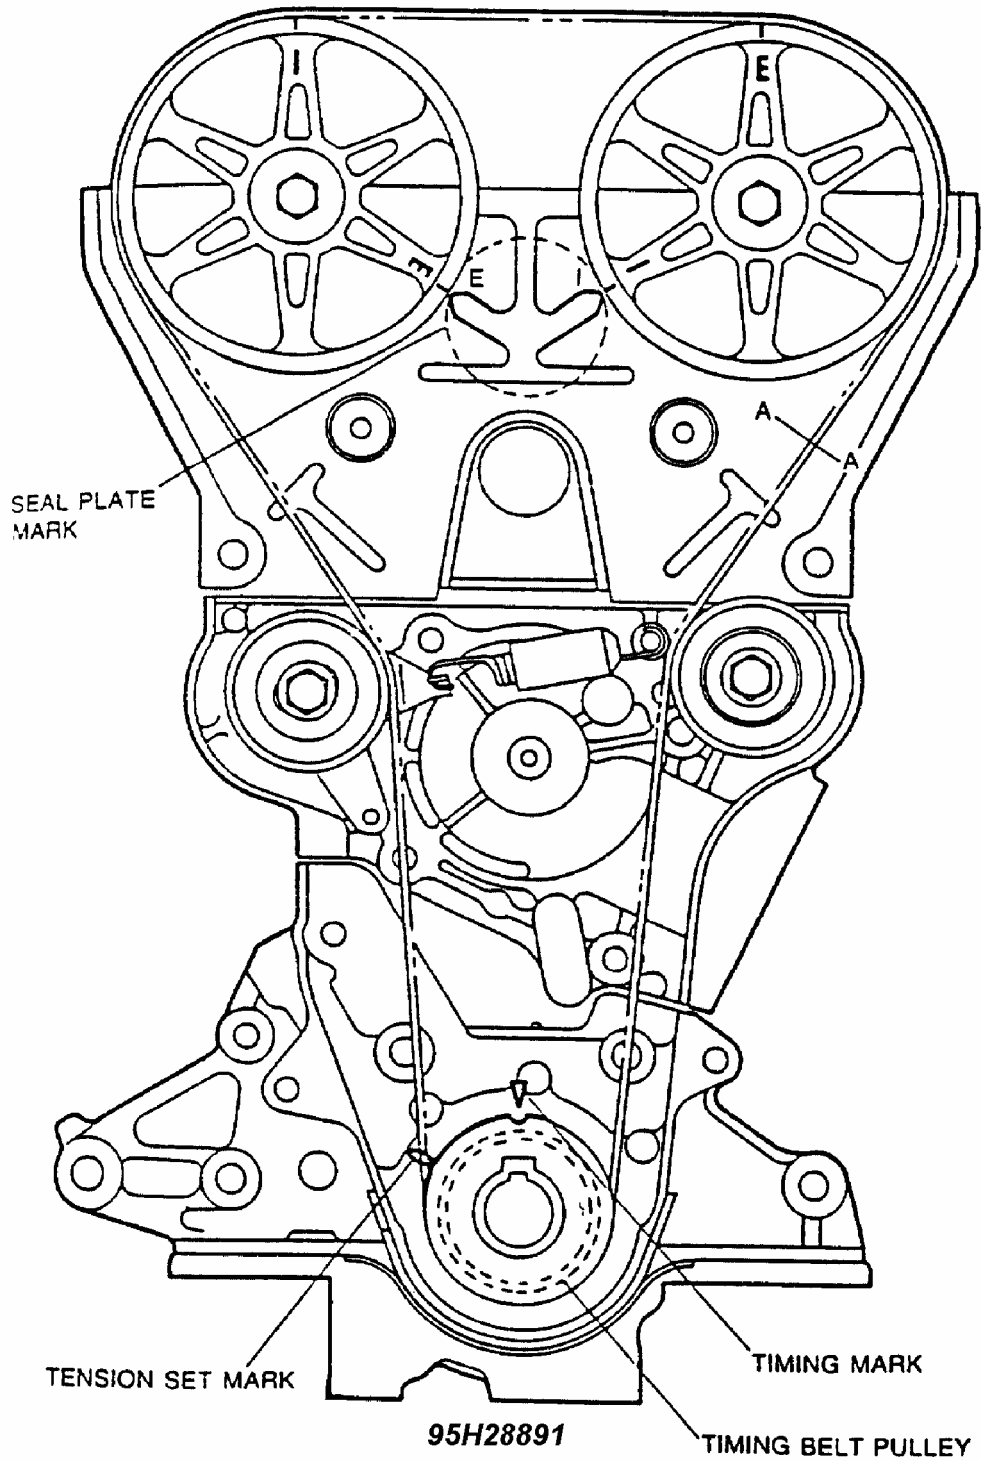
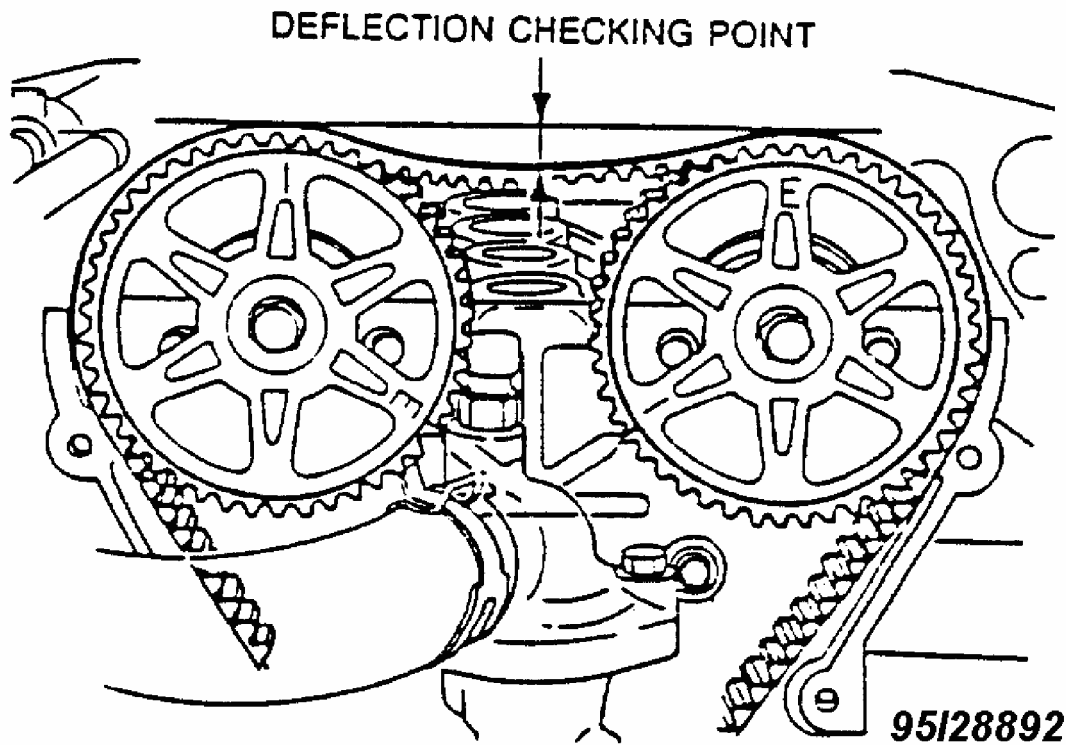

Fig. 6: Aligning Camshaft Timing Marks
Fig. 7: Measuring Timing Belt Deflection
3. Remove timing belt cover(s). If timing belt is to be reused, mark timing belt rotation direction. Align timing marks on camshaft sprocket(s). See **Fig. 6** and **Fig. 7**. Loosen timing belt tensioner lock bolt. Temporarily secure tensioner away from belt with spring fully expanded. Remove timing belt.
1. Position notch on crankshaft sprocket to 12 o'clock position (aligned with mark on oil pump). Align timing marks on camshaft sprocket(s). See **Fig. 6** and **Fig. 7**. Ensure crankshaft timing mark is at TDC. Install belt around crankshaft sprocket. Keeping belt pulled tight on right side (facing engine), route belt around camshaft sprocket(s).